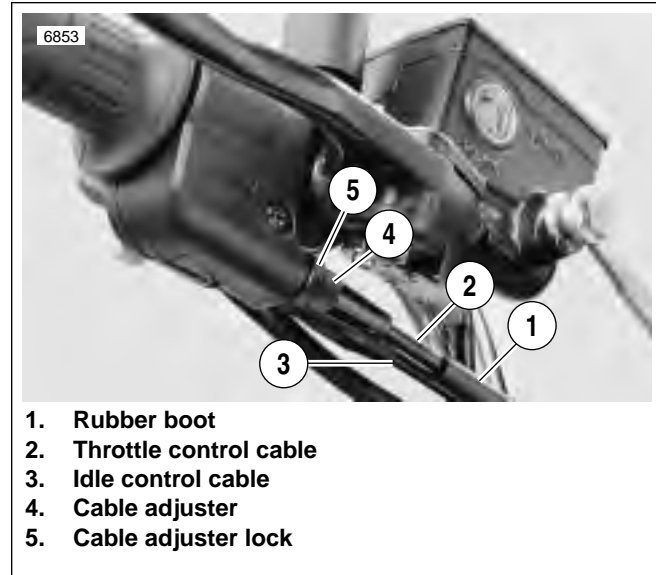

Figure 1-46. Throttle Control Cables
3. See Figure 1-46. Loosen cable adjuster lock (5) on each.
4. Turn adjusters (4) in direction which will shorten cable housings to minimum length.
6. Turn adjuster on throttle control cable (2) until throttle cam stop touches stop plate. Tighten cable adjuster lock on throttle control cable adjuster; release throttle control grip.
7. Turn handlebars fully to right. Turn adjuster on idle control cable (3) until end of cable housing just touches the cable guide.